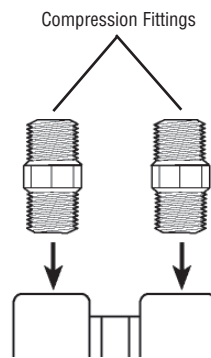

Figure 4
4. Screw one fitting into the filter outlet and the other fitting into the filter inlet (both are labeled on filter head assembly.) Tighten both fittings with a wrench. **Do not overtighten. Overtightening may result in a cartridge crack which may lead to fluid leaking** (Figure 4)